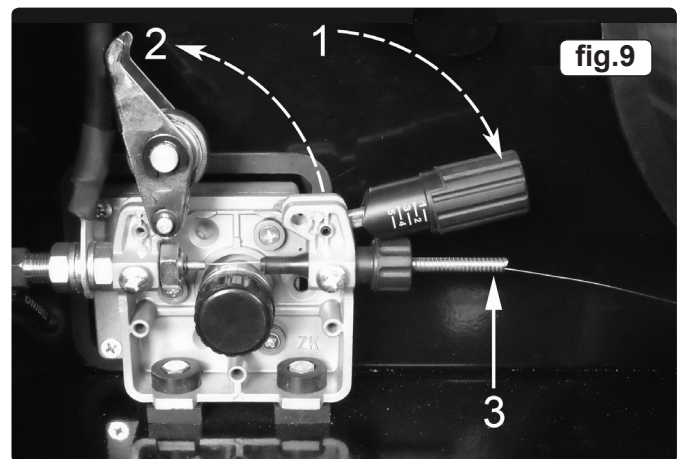

fig.9
3.10 FEED WIRE THROUGH TO TORCH. Referring to fig.9, open the wire feed mechanism by pushing the locking/wire tension knob (1) down to the right allowing the pressure roller carrier (2) to spring up revealing the feed roller. Ensure that the required feed groove (0.8 or 1.0) is in line with the wire path. See Section 3.13 on how to reverse or change the roller.
- 3.13.1 Referring to fig.9, open the wire feed mechanism by pushing the locking/wire tension knob (1) down to the right allowing the pressure roller carrier (2) to spring up revealing the feed roller.